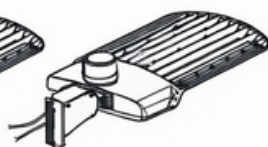

Figure 6
Step 2: Install the bracket on the fixture, then cover lid and tighten it. (Figure 6)